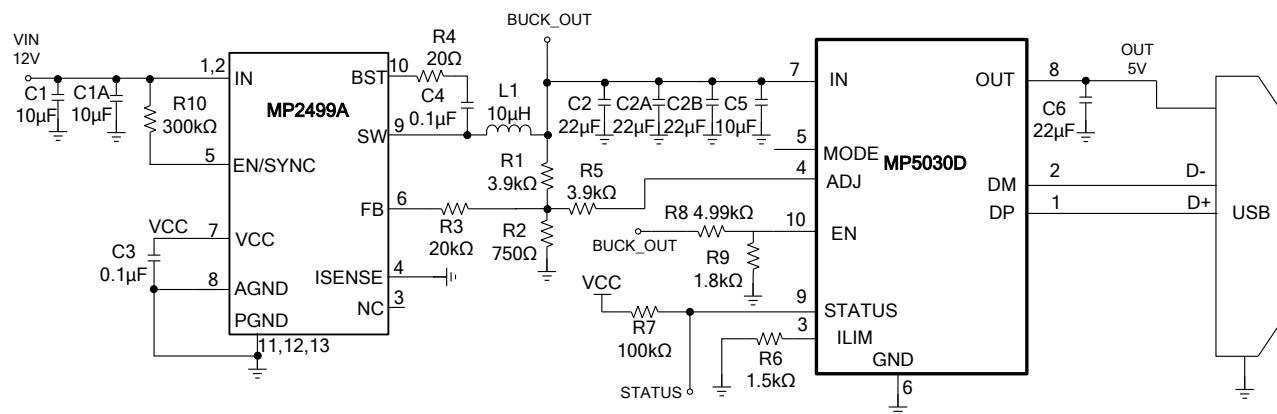

Figure 7: MP5030D + MP2499A for CLA Car Charger, DCP Mode (10)
9) The recommended layout is based on the Typical Application Circuit shown in Figure 7.